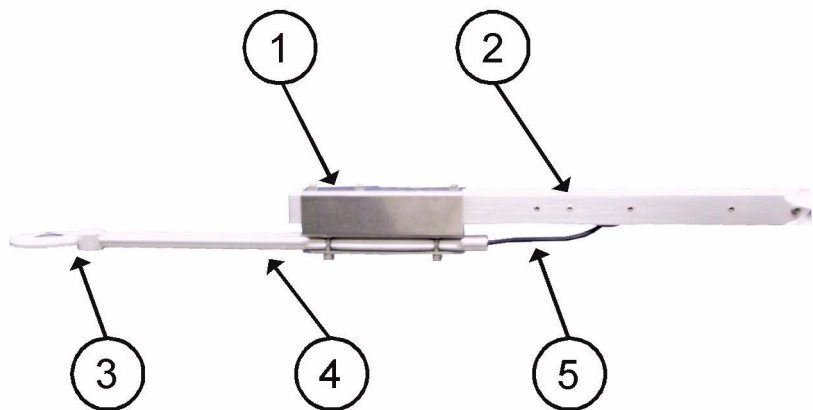

Figure 74 **Installing Net Solar Radiation Sensor**
1. Attach the mounting piece (1) to the sensor arm (2). Tighten with the screws. For the numbers, see Figure 74 on page 85.